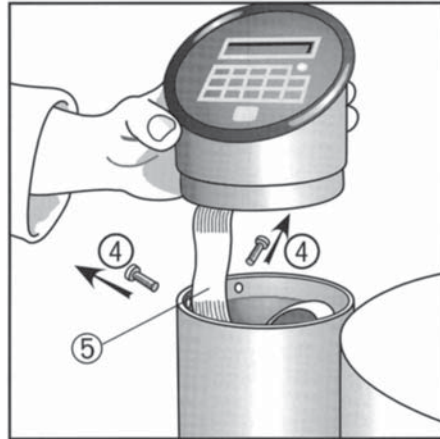

Figure 3
1.) Loosen the two fixation screws ④ of the control element as shown in figure 3 and carefully remove the control element from the control pillar by pulling it upward. Pull off the plug of the connecting cable ⑤ at the control element and put the cable into the control pillar.